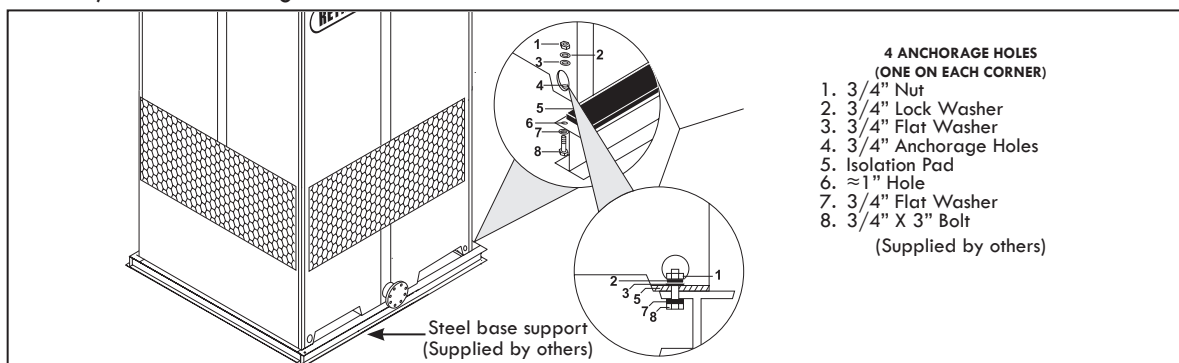

Figure A-35: Typical anchorage for a Single Fan Tower
- G. Place the Tower (unitized body & basin) section on top of the isolation pad and the steel base structure, making sure that the anchorage holes on the bottom of the Tower are aligned with the perforations of the base. Then proceed to bolt it down and secure it with stainless steel nut and bolt sets (supplied by others) as shown on Figure A-35.